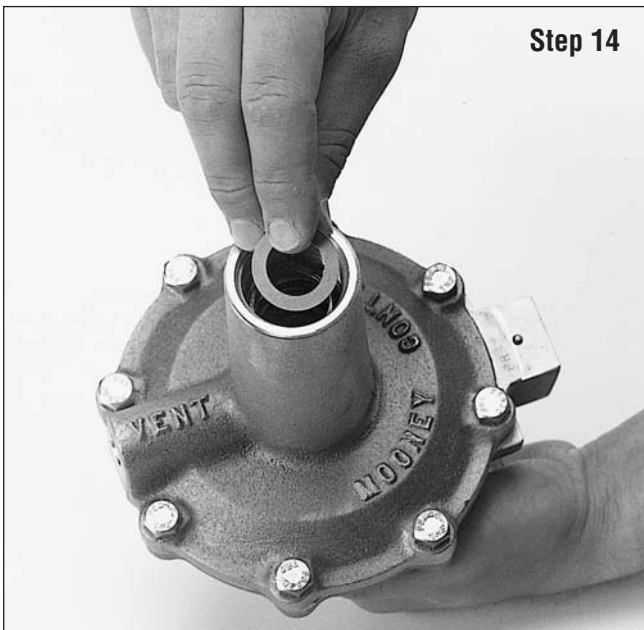

Figure 35 - Place a washer on top of the Main Spring.
14. Place a small amount of petroleum grease such as Lubriplate No. 1051 on the remaining Spring Washer. This will help to hold it in a centered position on top of the main spring. Place the Spring Washer on top of the main spring. The washer prevents the Main Spring from "binding" when the Set Point Spring Adjuster is rotated (refer to Figure 35).